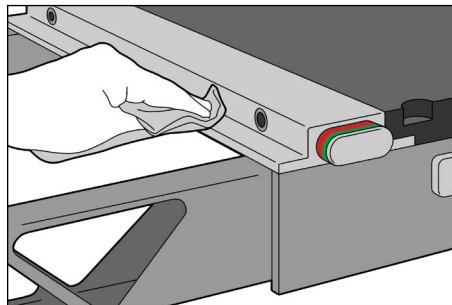

Fig. 2
2. Wipe any lint or debris from the outside of latch. (Fig. 2).